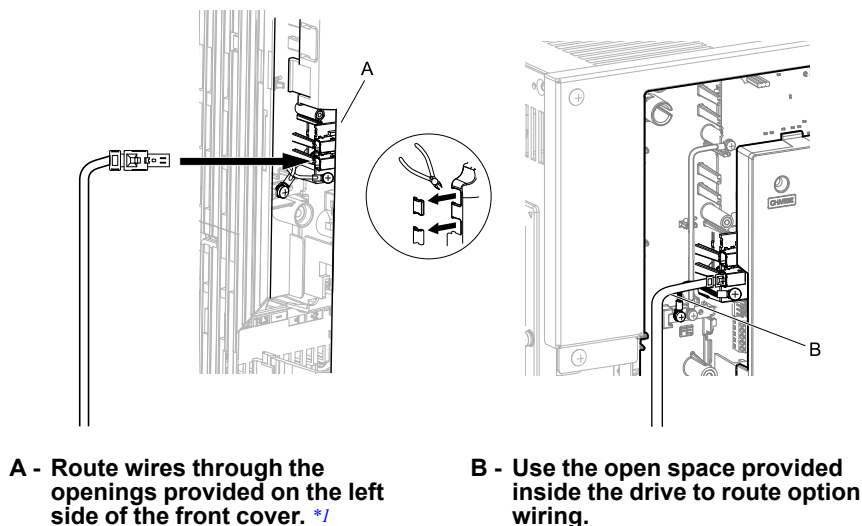

Figure 5.4 Wire Routing Examples
- You can route the option wiring through openings on the front cover of some models. Remove the perforated tabs on the left side of the front cover as shown in Figure 5.4-A to create the necessary openings on these models. To prevent damage to the cable from the cut end, treat the cut surface with sandpaper.
- Route the option wiring inside the enclosure as shown in Figure 5.4-B.